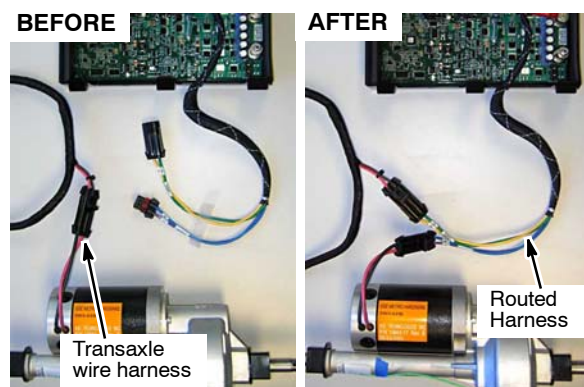

Fig. 6
- From under the machine, disconnect the transaxle wire harness and connect the routed wire harness from the new control box as shown (Figure 6). Use wire-ties to secure wire harness to machine.